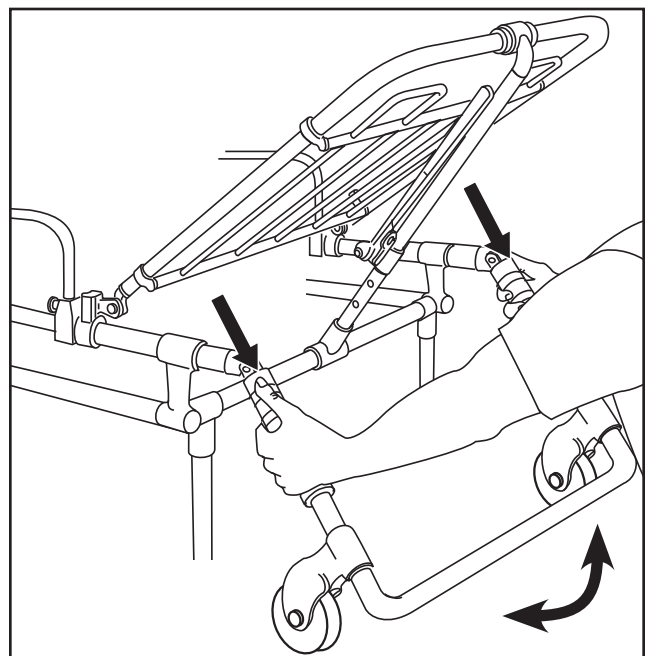

Figure 6 - Using the Drop Frame
3. Slide both lock sleeves toward the head end of the cot to expose the drop frame hinges, then push the frame down (Figure 6).